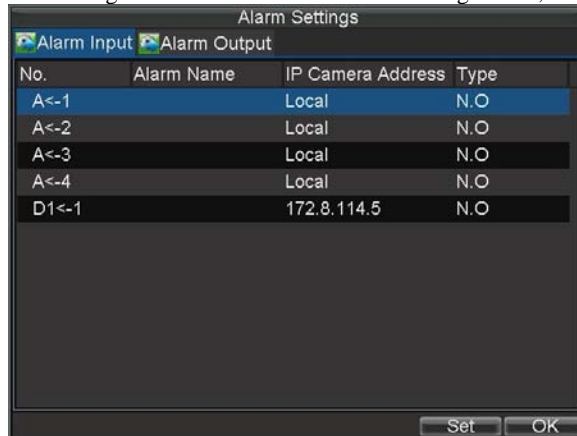

Figure6. Alarm Management Menu
1. Click Menu > Settings > Alarm to enter the Alarm Settings menu, shown in Figure 6.